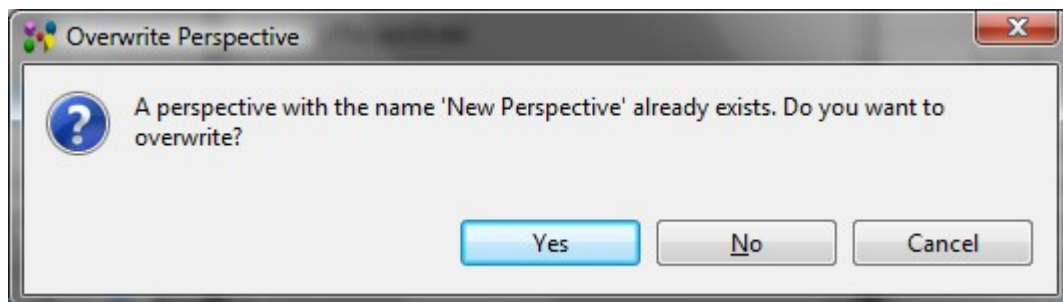

Figure 3. Overwrite Perspective dialog window
- Enter a new name of the perspective to be created into the **Name** field or select one of the perspectives in the **Existing Perspectives** list. If an existing perspective is selected, the dialog appears informing, that the selected perspective already exist (see Figure 3). You have to confirm or cancel and enter a new name.